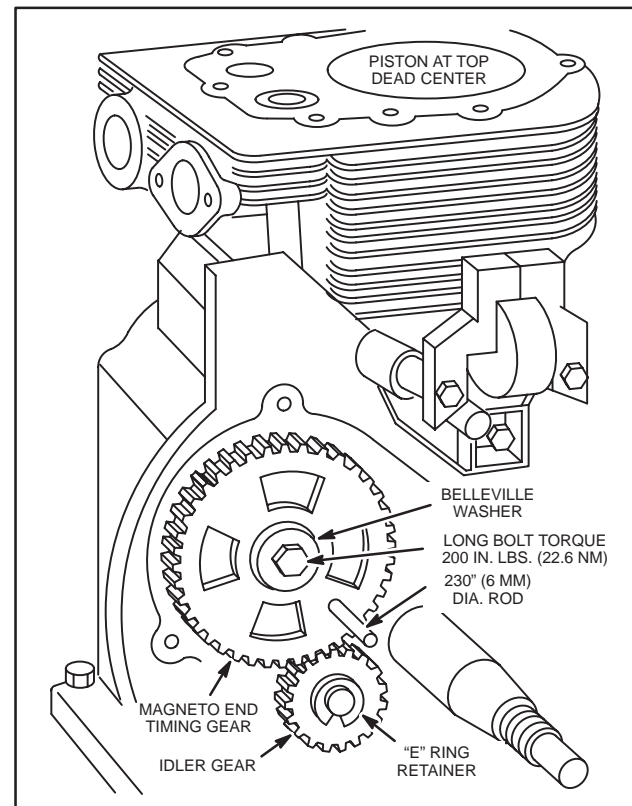

Fig. 183 - INSTALLING AND TIMING
5. Install bolt with Belleville washer, finger tight, Fig. 183.
6. To time drive gears, insert short pieces of 1/4" (6 mm) rod through 1/4" (6 mm) holes in drive gears, and into locating holes in crankshaft bearing support plates, Fig. 183.